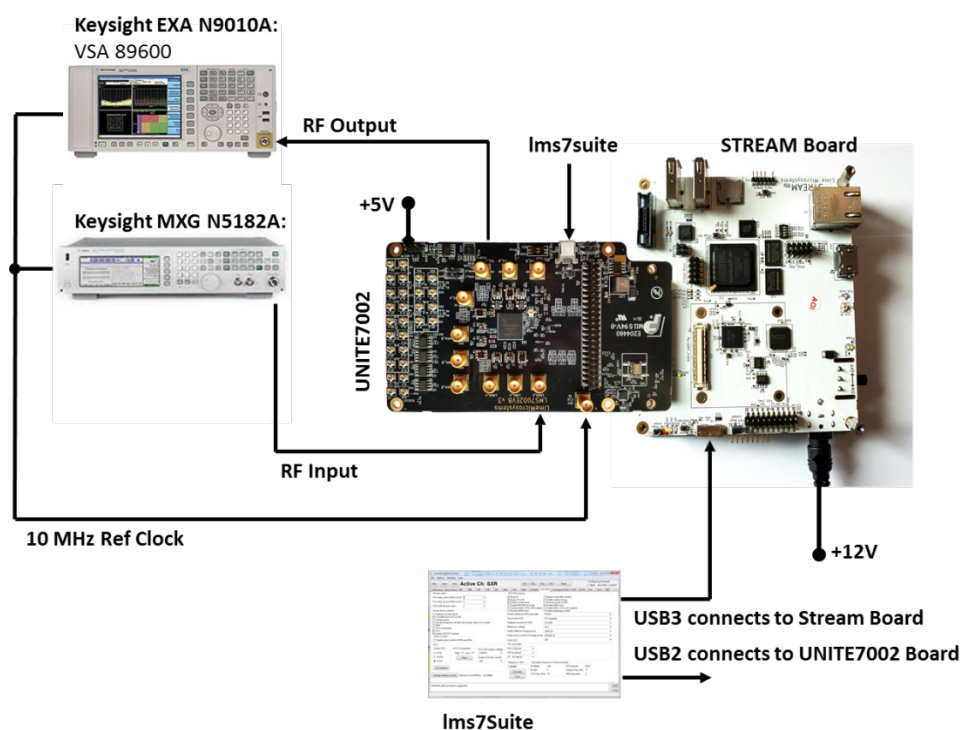

Figure 6 Demo Setup for LMS7002EVB and Stream board
The demo setup is showed in Figure 6 . This demo uses single control software “*lms7suite.exe*” to control UNITE7002 board and Stream board.
1. Connect the DEMO setup as shown in *Figure 6*. To measure Tx EVM the VSA89601B software is required.